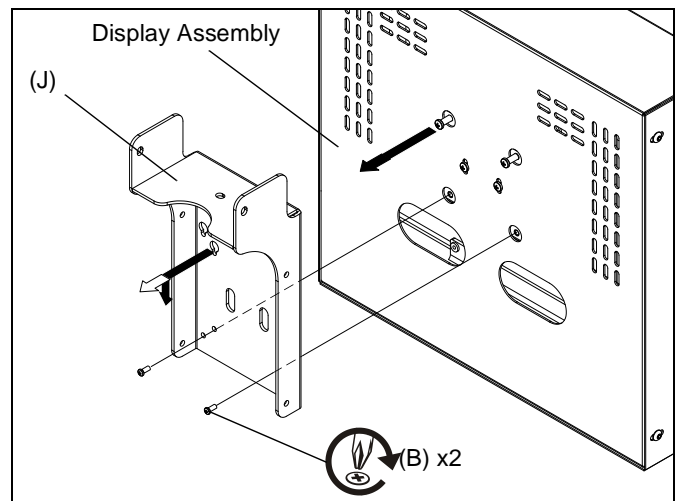

Figure 8
5. Move display forward and insert two upper display mounting screws (previously installed) into upper teardrop mounting holes in faceplate (J). (See Figure 8)
6. Secure display assembly to face plate by installing two lower M4 x 10mm screws (B) through face plate and into mounting holes in display assembly. (See Figure 8)